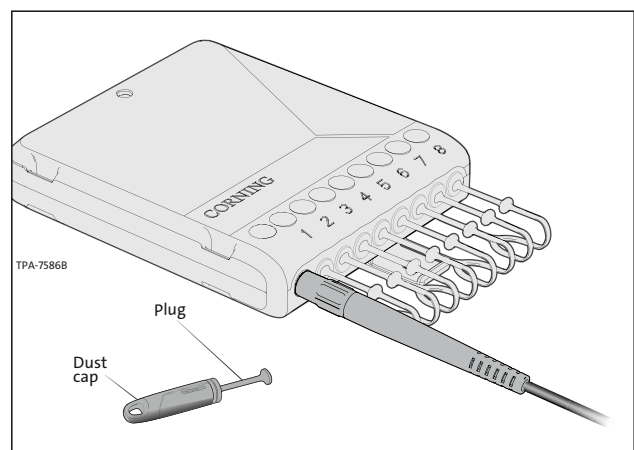

Figure 25
Step 7: Connect the terminal port dust plug with the connector dust cap (Figure 25).